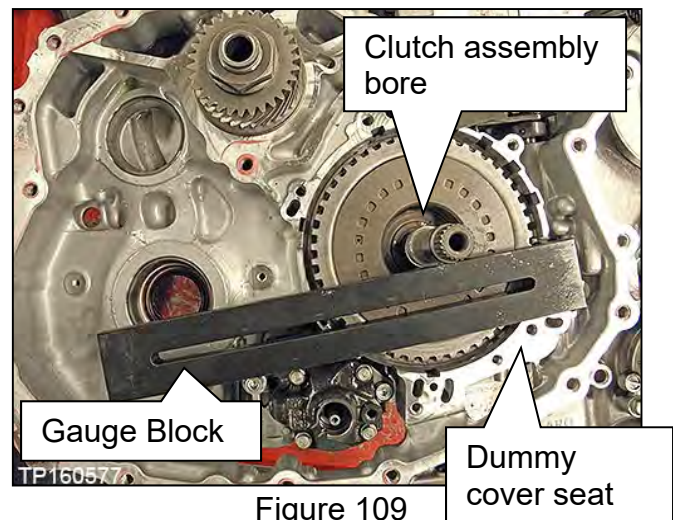

Figure 109
- a. Place the Gauge Block on the surface where the dummy cover seats, and over the clutch assembly bore (Figure 109).